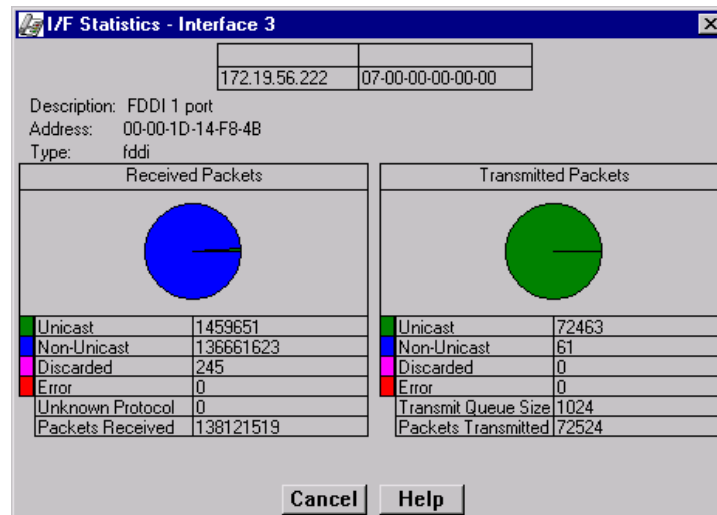

Figure 5-6. Interface Statistics Window
The Interface (IF) Statistics window (Figure 5-6) provides MIB-II interface statistical information — including counts for both transmit and receive packets, and error and buffering information — for each of the interfaces available on the 9A128-01. A color-coded pie chart in the middle of the window lets you graphically view statistics for Unicast, Non-Unicast, Discarded, and Error packets.